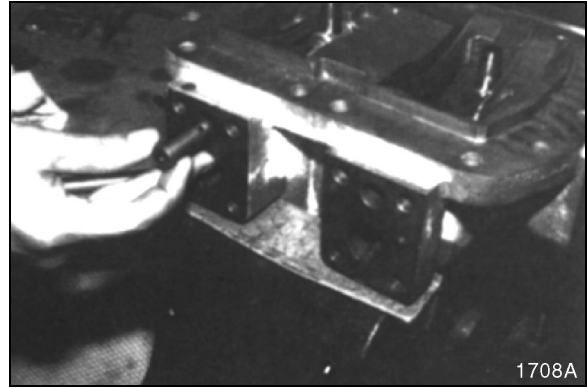

Figure 114
10. Turn main control body upside down and install retainer. See Figure 114.